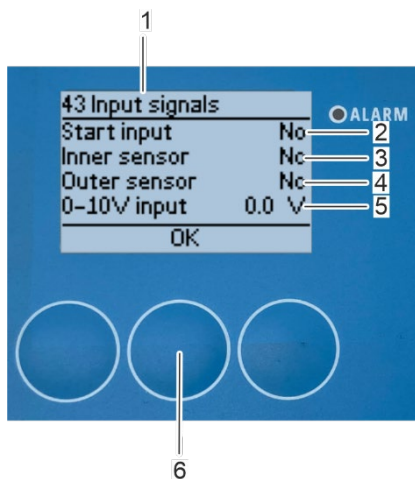
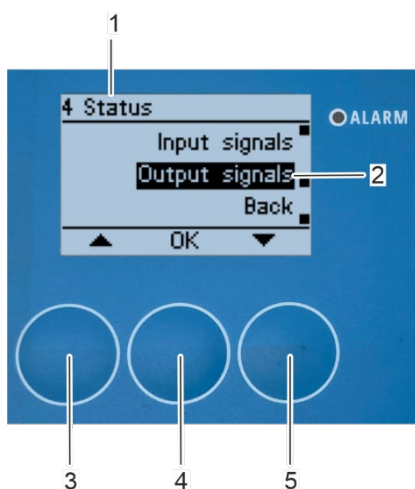

Fig. 178: Submenu "43 Input signals"
Fig. 179: Open submenu "Output signals"
⇒ The "43 Input signals" submenu appears on the display (Fig. 178/1) showing the actual status of the "Start input" (Fig. 178/2), the
"Inner sensor" (Fig. 178/3), the "Outer sensor" (Fig. 178/4) and the "0-10 V input" (Fig. 178/5).
The input signals "Start Input" (Fig. 178/2), "Inner Sensor" (Fig. 178/3) and "Outer Sensor" (Fig. 178/4) show "Yes" if there is an input signal. The "0-10V Input" (Fig. 178/5) shows the currently applied voltage in a range from 0 to 10 V.
3. Press [OK] (Fig. 178/6) to return to the submenu "4 Status" (Fig. 179/1).
⇒ The "4 Status" submenu appears on the display (Fig. 179/1).
1. Select the "Output signals" submenu (Fig. 179/2) with the arrow keys [up] (Fig. 179/3) and [down] (Fig. 179/5).
2. Confirm the selection with [OK] (Fig. 179/4).